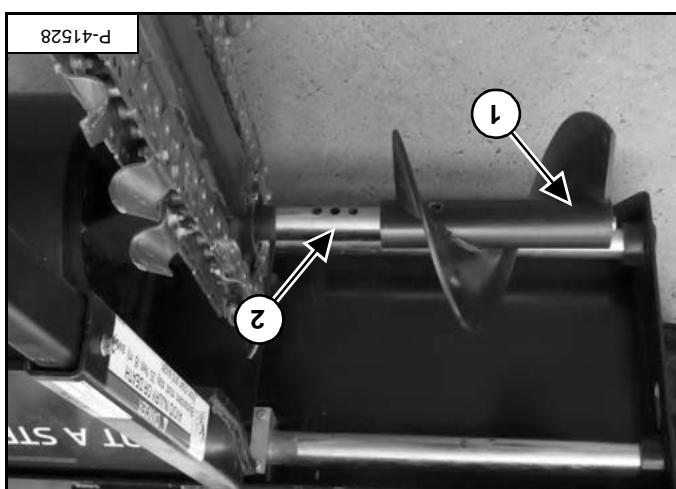

Figure PM-3
Slide the auger (item 1) [Figure PM-3] off the mounting shaft. Apply anti-seize to the shaft (item 2) [Figure PM-3] when installing the auger.